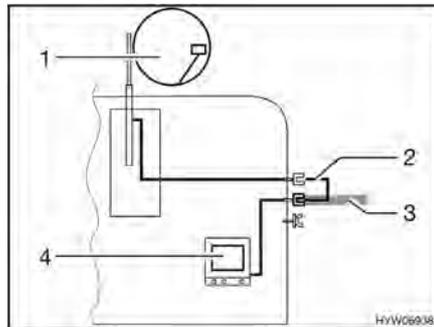

Fig. 119 TV inside the vehicle
- TV inside the vehicle (Fig. 119,4): Connection to roof antenna (Fig. 119,1) with connection cable (Fig. 119,2)
- TV inside the vehicle (Fig. 119,4): Connection to external antenna (Fig. 119,3)